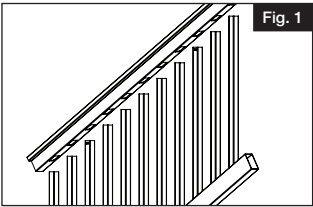

Fig. 1
- a. Assemble your rail section by inserting balusters/spindles into rails (Fig 1). Lock tabs on balusters/spindles must face the outer edge of the routed holes in rails.